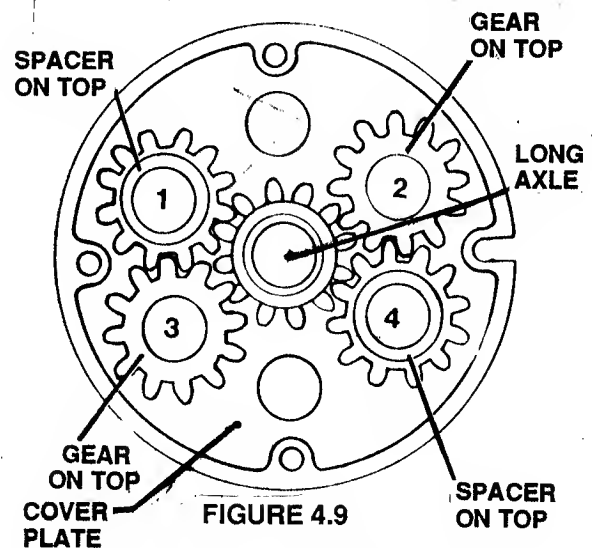

FIGURE 4.9
8. On shaft indicated as Number 1 in Figure 4.9, install gear first, then spacer.
9. On adjacent shaft (number 2), install spacer first, then gear. When properly positioned, gear-spacer arrangement will be opposite side to side and the same diagonally as shown in Figure 4.9.